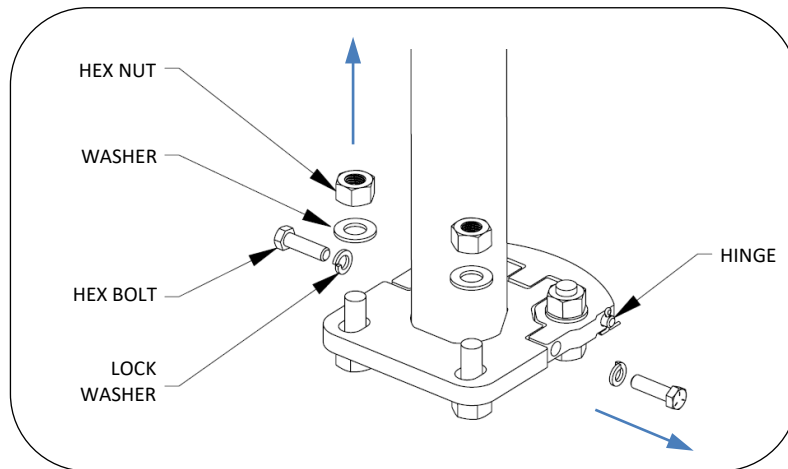

Fig. 5 – Remove locking bolts to utilize hinge
2. Remove front hex nuts and washers, see Fig. 5.
3. Remove (2) side hex bolts and locking washers, see Fig. 5.